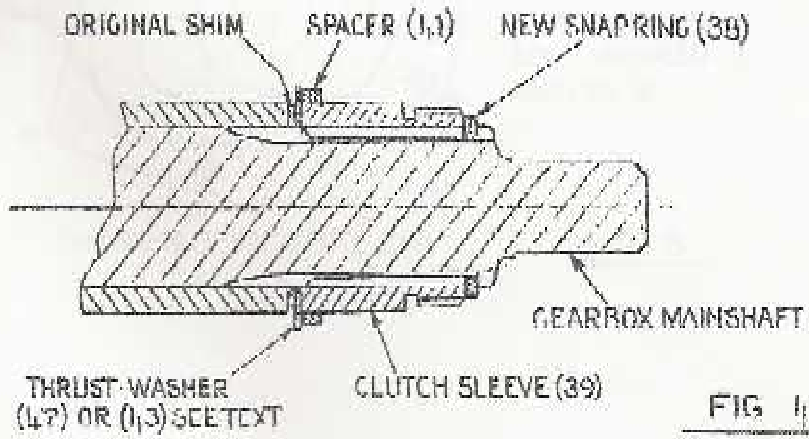

FIG. 4
- 13. Fit the thicker of the two thrust washers, (42) onto the mainshaft. See Fig 4.
- 14. Fit the clutch sleeve, (39), onto the mainshaft.
- 15. Push the new snap ring, (38), edge on into the groove to ensure that it will fit.